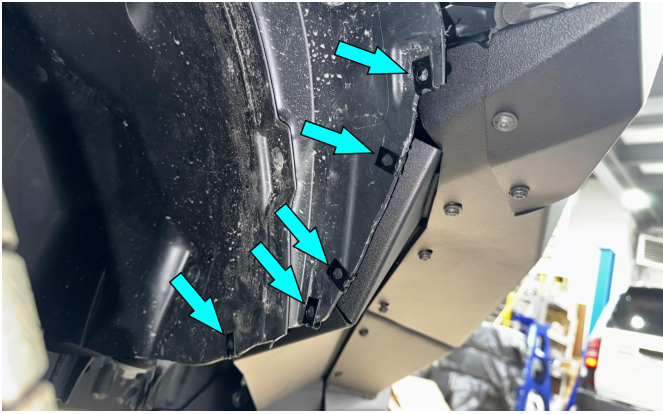

Fig.94
92. Install u-nuts (item J) on plastic fenders (fig.94).